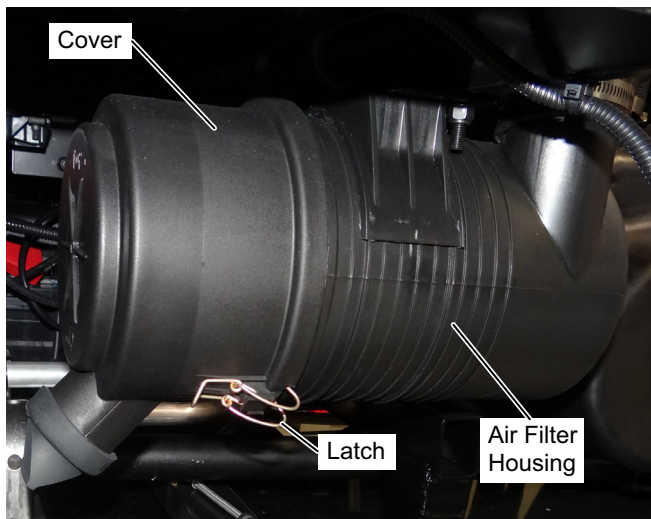

Fig. 3 Air Filter Housing
2. Unlatch the cover to access the air filter cartridge (Ref. Fig. 3).
2. Loosen the air hose clamps and slide the hoses off of the housing (Ref. Fig. 1)(Ref. Fig. 3).
3. Remove the two bolts (5) that secure the housing to the mounting bracket.